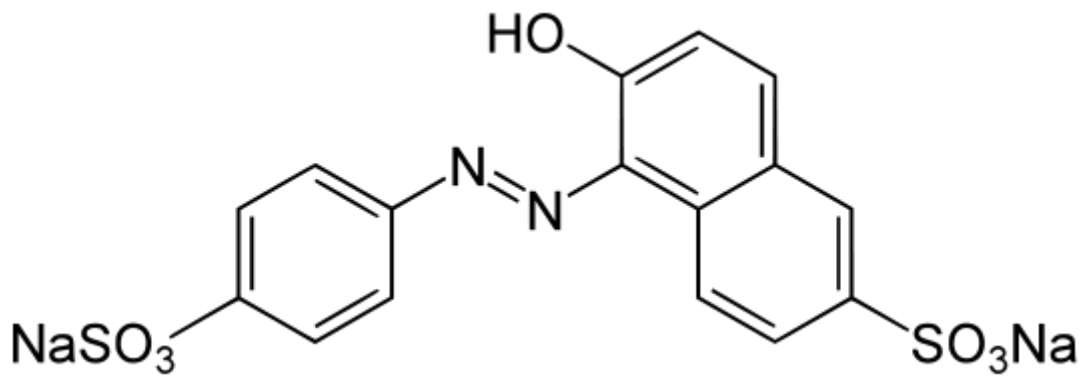

Figure 1: Skeletal structure of sunset yellow
3. Calculate the molecular weight of sunset yellow shown in figure 1. (3 mark)